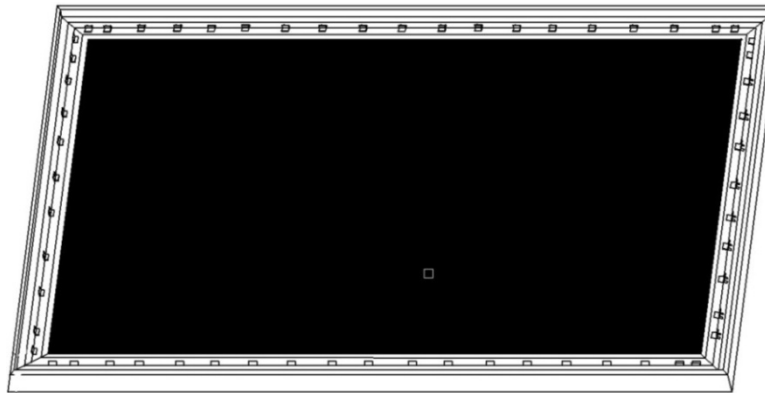

Fig.8
- (6) Fasten the remainder of the fix plates in the empty locations in the red markings to complete attaching the screen material. (Fig.8)